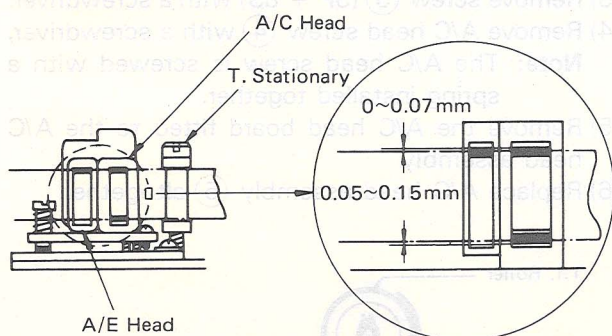

Figure 25
3. Check that the A/C head has the height and tilt shown in Figure 25 with respect to the tape.
\* If there is any abnormality in the travel mode, carry out the following adjustments with reference to Figure 23 and Figure 25.
4. If adjustment is needed, adjust by means of screw ②. Turn screw ② little by little.
5. The height of the A/C head should be positioned with respect to the tape as shown in Figure 25.
6. Adjust the height, tilt, and azimuth of the A/C Head as shown in Figure 25.